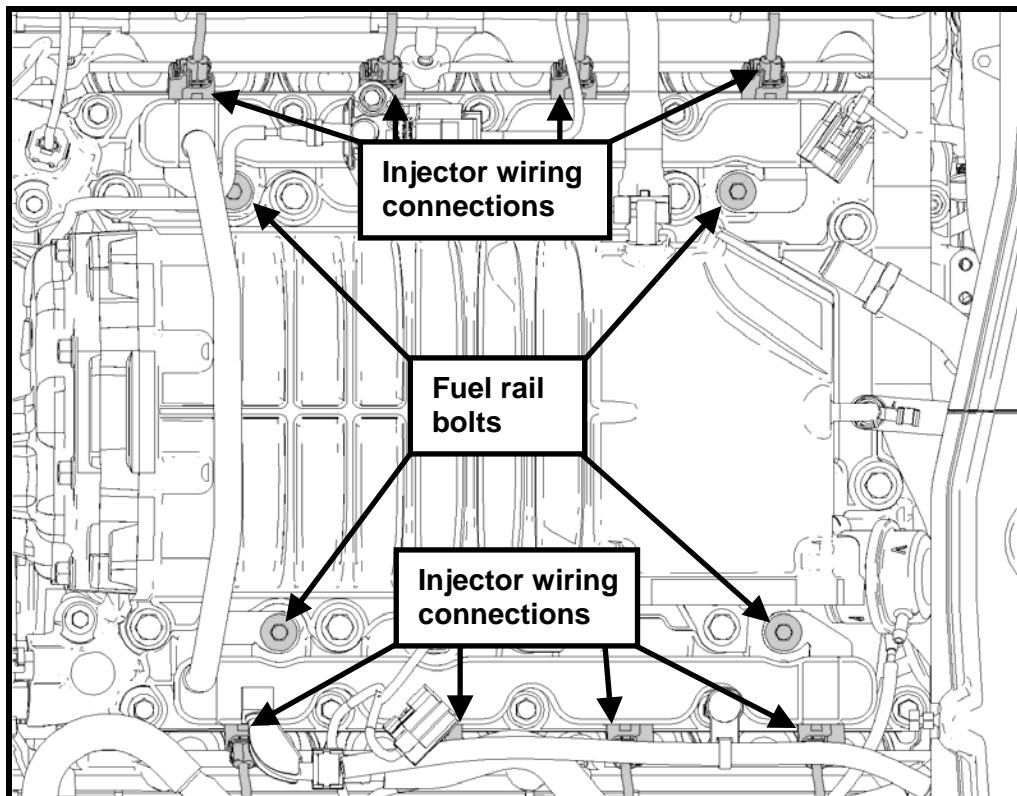

Fig. 15
STEP 15: Disconnect all eight fuel injector wiring connectors (See Fig. 15).
STEP 16: Remove the fuel rail mounting bolts (See Fig. 15). Pull up on the fuel rail and all eight injectors to gain access to the supercharger. Rotate the fuel rail around the fuel rail supply line and set aside on the driver side strut tower.